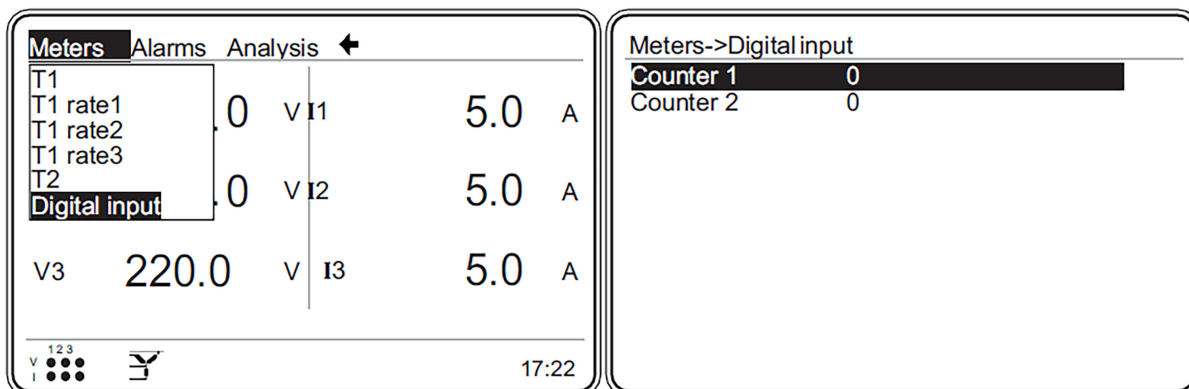

Figure 3.31: Digital input1 counter
- Assume that for digital input 1, 'Counter' is selected as the mode setting. Under this condition, each time DI1 and GND pins are short-circuited, "Meters->Digital input-> Digital input1 counter" counts (Figure 3.31 on page 3-17).